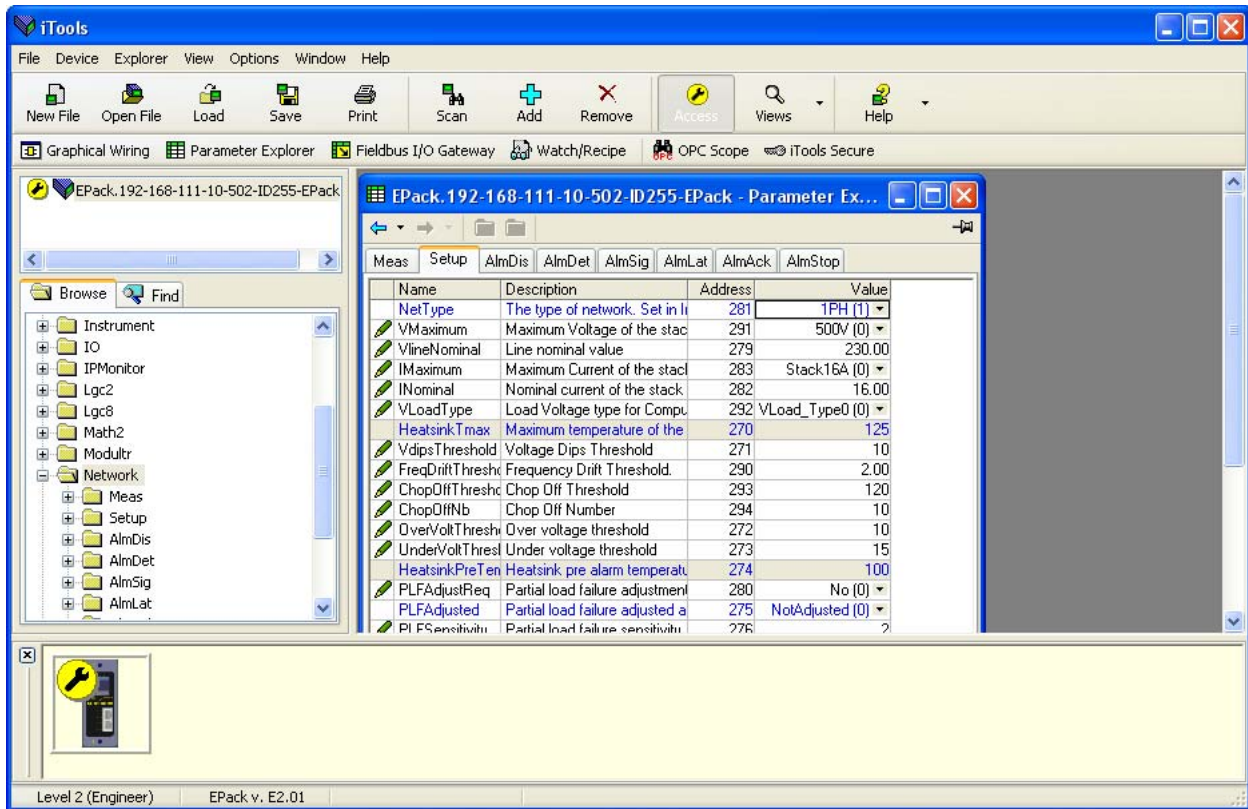

Figure 136 Parameter table example
In each case the function block parameters appear in the iTools window in tabular form, such as the example in figure 136.
- Parameters in blue are non-editable (Read only). In the example above all the parameters are read only. Read/write parameters are in black and have a 'pencil' symbol in the 'read/Write access column at the left edge of the table. A number of such items are shown in figure 136, above.
- Columns. The default explorer window (figure 136) contains the columns 'Name', 'Description', 'Address' and 'Value'. As can be seen from figure 139, above, the columns to be displayed can be selected, to a certain extent, using either the 'Explorer' menu or the context menu. 'Limits' have been enabled for the example above.